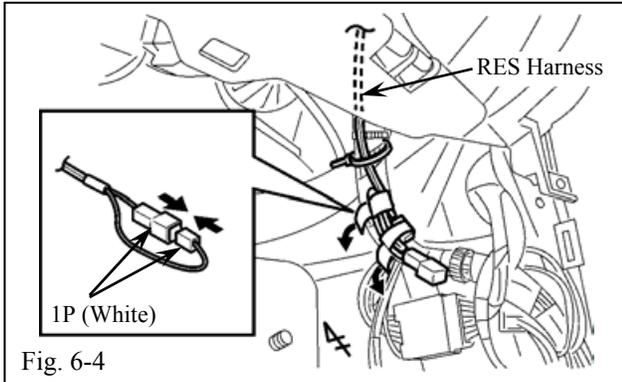

Fig. 6-4
- (e) Locate and disconnect the tape securing the RES Diagnostic Connectors from the passenger side cowl area and connect them. (Fig. 6-4)